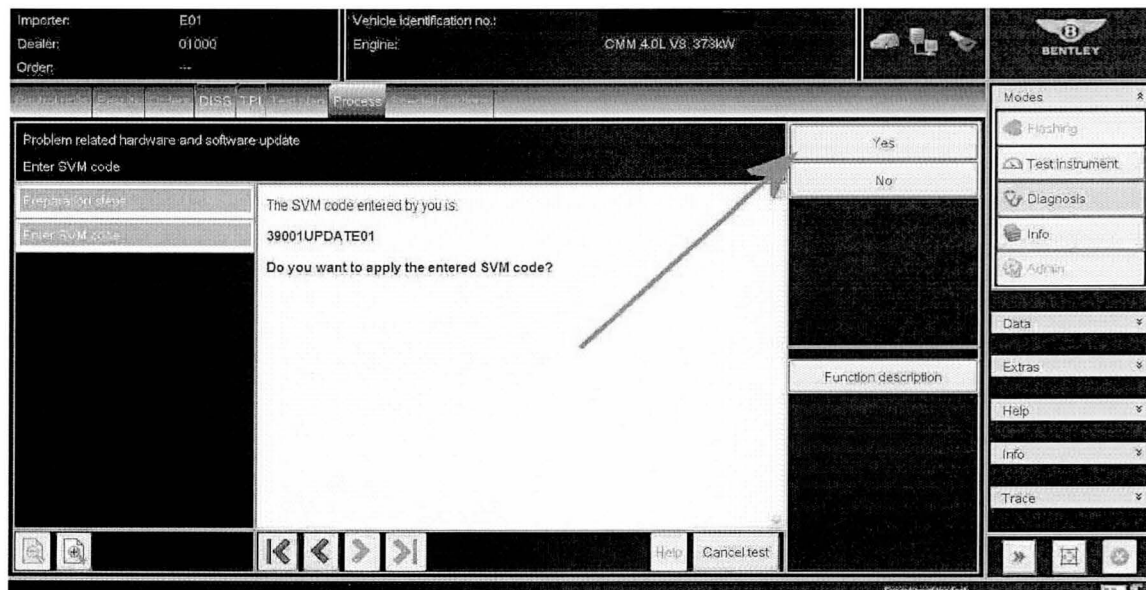

Figure 9
- Select Apply Point B, when prompted to apply the SVM code - select Yes as shown in Figure 9